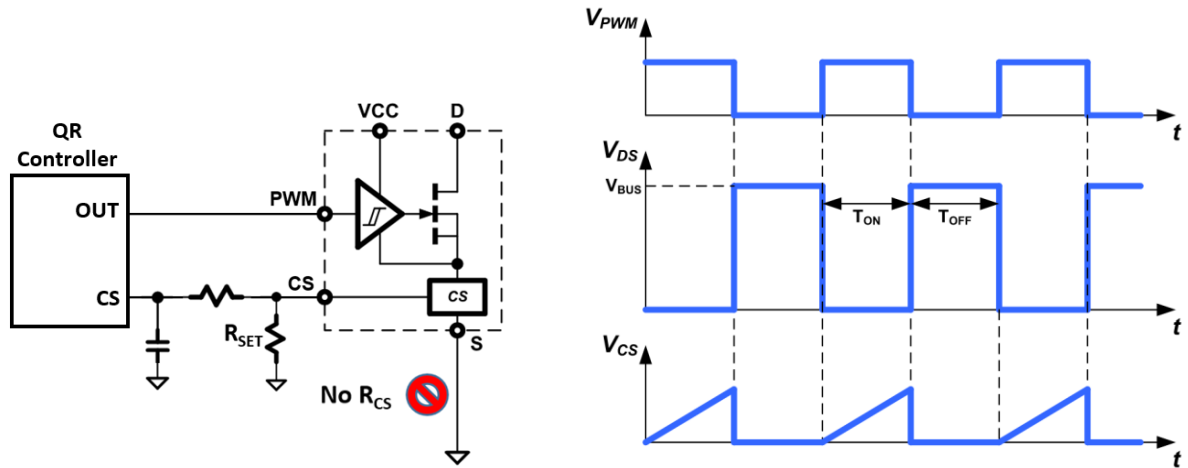

Fig. 26. Current sensing circuit and timing diagram
For many applications it is necessary to sense the cycle-by-cycle current flowing through the power FET. Existing current sensing solutions include placing a current sensing resistor in between the source of the power FET and P_{GND}. This resistor method increases system conduction power losses, creates a hotspot on the PCB, and lowers overall system efficiency. To eliminate this external resistor and hotspot, and increase system efficiency, this IC includes GaNSense™ Technology for integrated and accurate loss-less current sensing. The current flowing through the internal GaN power FET is sensed internally and then converted to a current at the current sensing output pin (CS). An external resistor (R_{SET}) is connected from the CS pin to the S_{GND} pin and is used to set the amplitude of the CS pin voltage signal (Fig. 26). This allows for the CS pin signal to programmed to work with different controllers with different current sensing input thresholds.